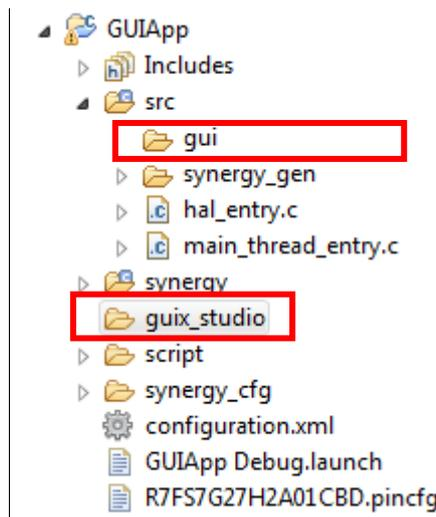

Figure 67 Final Folder List
2. Create another new folder named “guix_studio” in the root folder of the project by right clicking on “GUIApp” and selecting “New -> Folder”. The final folder layout should now look like Figure 67.